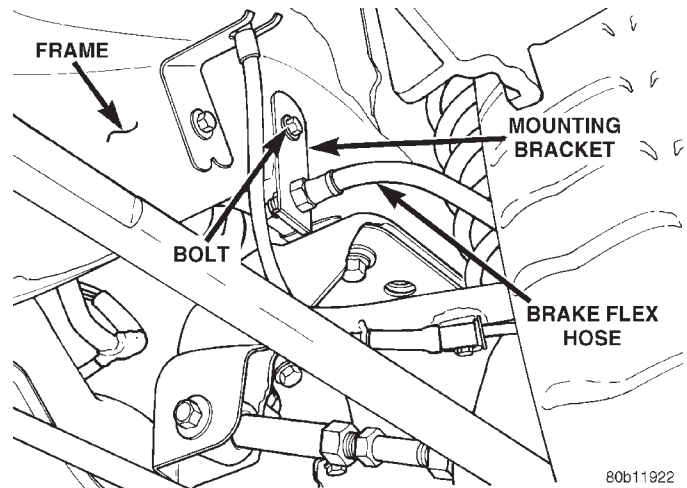

Fig. 16 Brake Flex Hose Mounting Bracket
(3) Remove the brake flex hose mounting bracket (Fig. 16) from the frame rail.